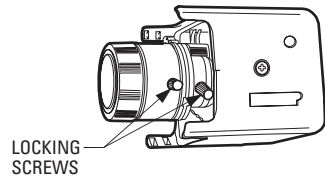

Figure 9. Varifocal Lens Adjustment
2. **Varifocal Lens Only** – Loosen the focal length and focus locking screws (refer to Figure 9). Adjust according to scene detail. Retighten the screws.